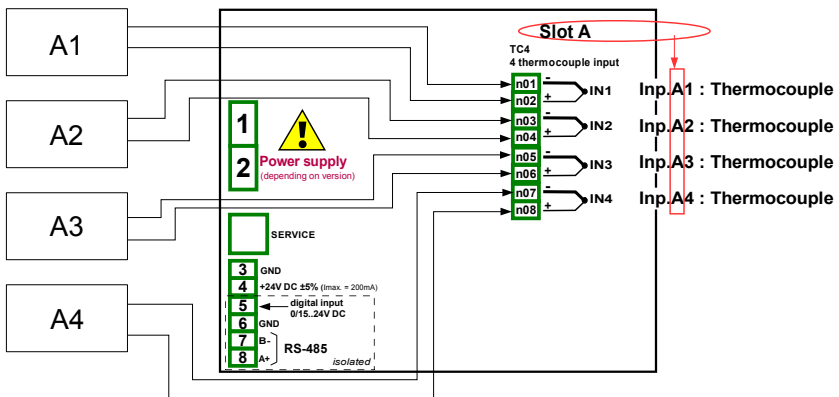

Fig. 7.63. Schematic diagram for the TC4 module
Before measuring temperature the thermocouple sensors should be connected to the device. An example of how the connection is shown in **Fig. 7.63**.
- Source parameter set as **Inp. A1: Thermocouple** (see the connection in **Fig. 7.63**),
- Source parameter set as **Source - Inp. A2: Thermocouple** (see Fig. 7.63),
- Source parameter set as **Source - Inp. A3: Thermocouple** (see Fig. 7.63),
- Source parameter set as **Source - Inp. A4: Thermocouple** (see Fig. 7.63),